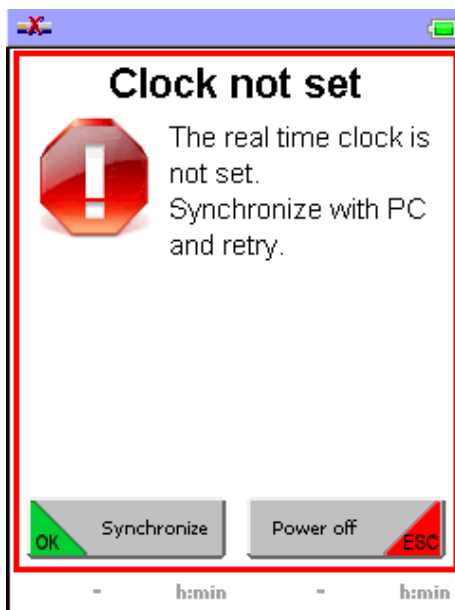

Fig. 42: Message
2. ➤ If the control unit (BE) has never been synchronised with a PC, the message Fig. 42 is displayed. Synchronise the control unit with a PC (☞ *Chapter 9.10 'Data exchange between PC and control unit' on page 81*) and restart the control unit (BE) (☞ *'Starting' on page 71*).
3. ➤ If the message Fig. 42 is displayed in relation to an already synchronised control unit, the internal clock battery is faulty. Have the battery exchanged by PLARAD[®] service.